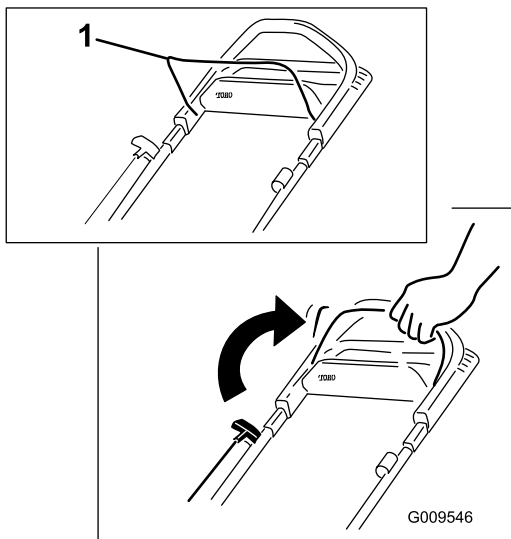

Figure 10
1. Hold the blade-control bar against the handle (Figure 10).